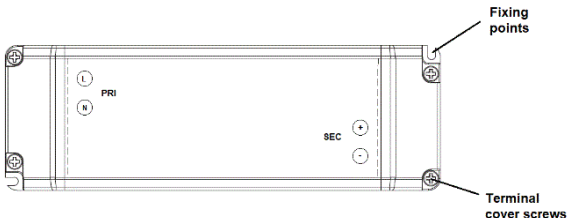

Fig. 1
- Unscrew the terminal cover screws (see Fig. 1) and remove the terminal covers